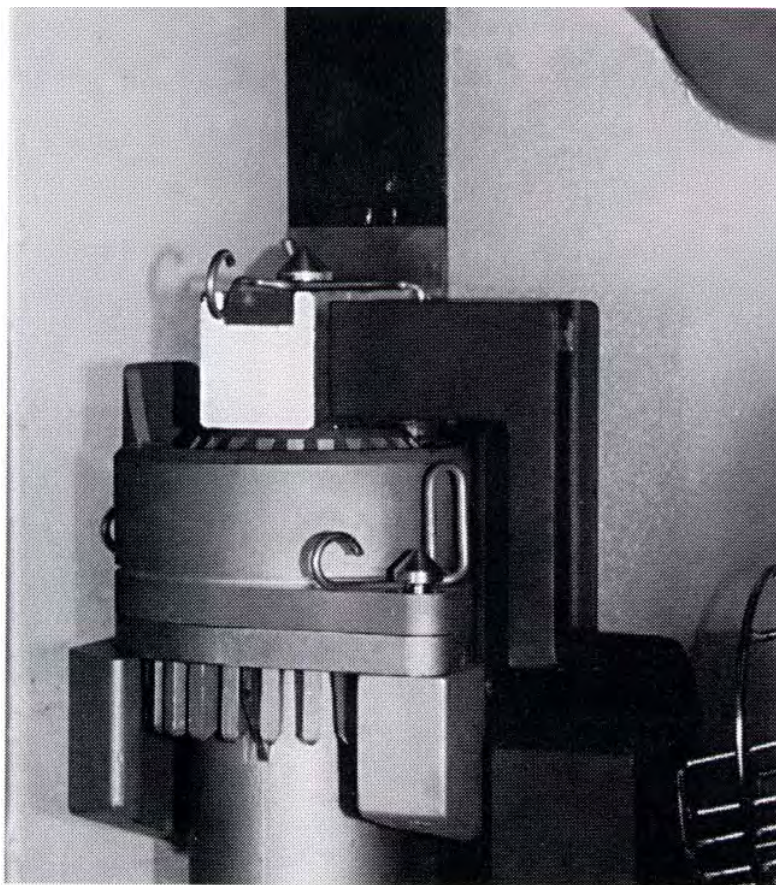

Figure 28. Checking for Cup Clearance
18. **To check to see if upper cup crank rod end link needs to be adjusted, install juice manifold, upper and lower cup. Refer to Figure 28.**